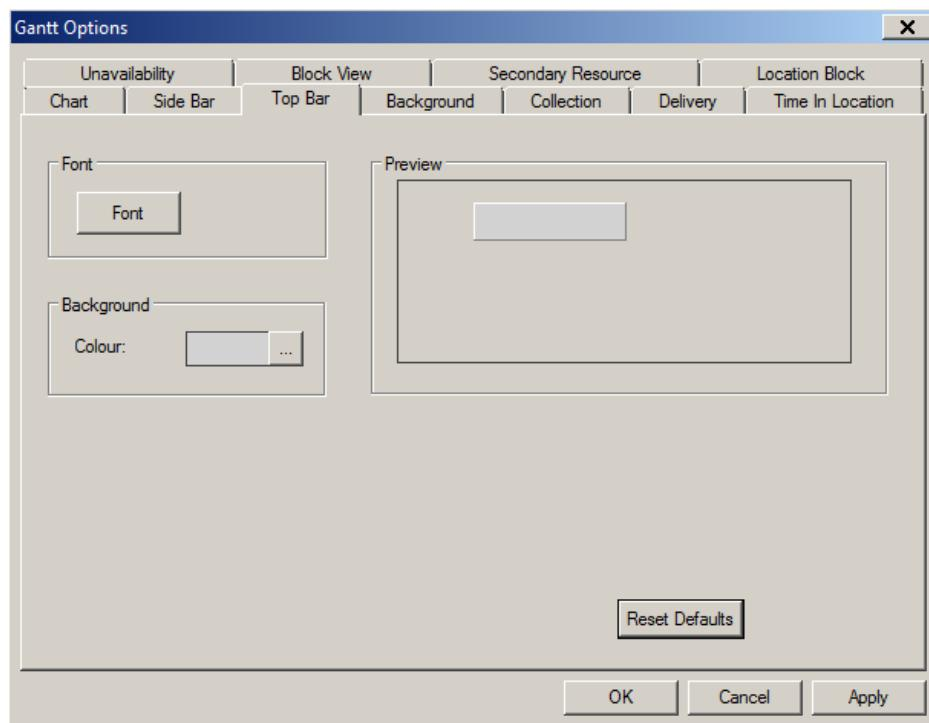

Figure 188
1. Click  (Figure 188)
3. Click  to return back to the **Top Bar** Options window (Figure 188)
3. Click  to confirm the changes and return back to the **Top Bar** options window (Figure 188)